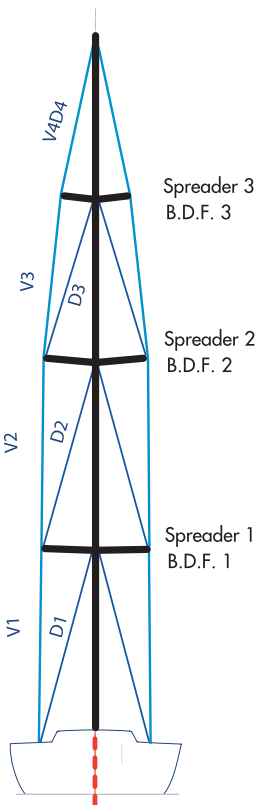

FIG. 1 - planted mast
- the mast may be fitted to the deck or keel stepped (fig1).